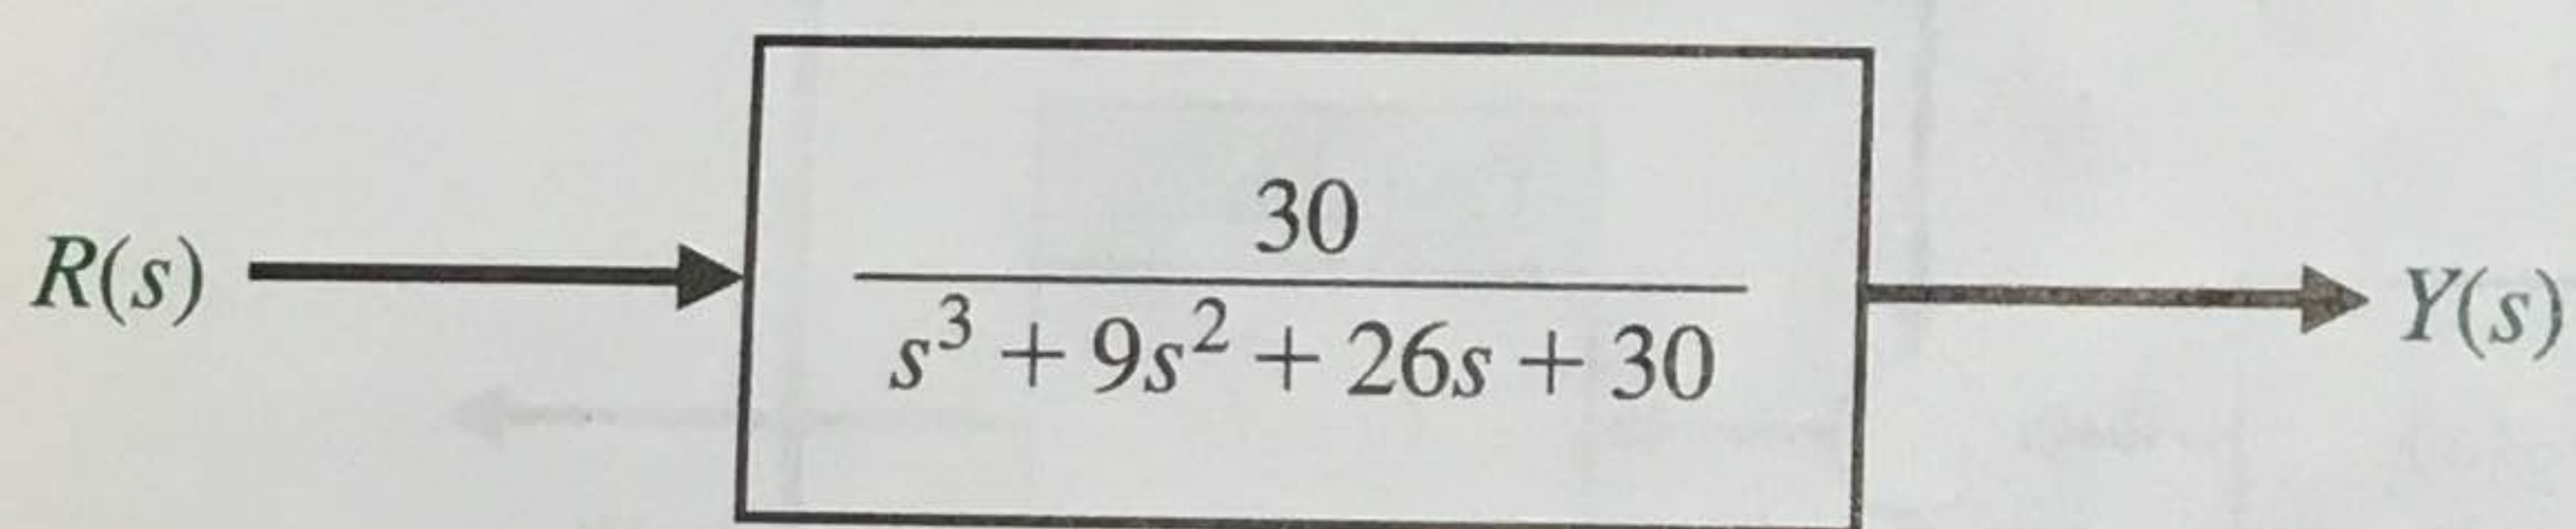

FIGURE P2.36 A third-order system.
- P2.36** A system is represented by Figure P2.36. (a) Determine the partial fraction expansion and $y(t)$ for a ramp input, $r(t) = t, t \geq 0$. (b) Obtain a plot of $y(t)$ for part (a), and find $y(t)$ for $t = 1.0$ s. (c) Determine the impulse response of the system $y(t)$ for $t \geq 0$. (d) Obtain a plot of $y(t)$ for part (c) and find $y(t)$ for $t = 1.0$ s.